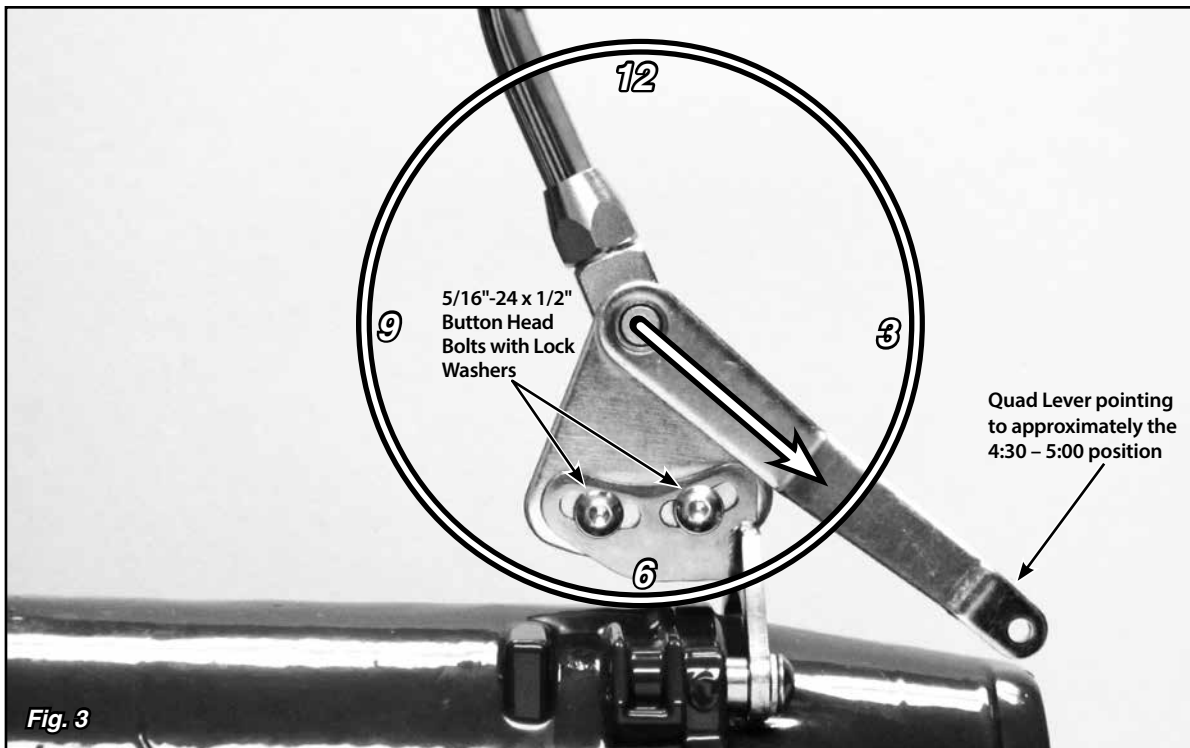

Fig. 3
Step 5: Insert the shifter assembly into the tailmount bracket so that the bolt holes line up with the curved, slotted holes in the welded banana brackets. Install four 5/16"-24 x 1/2" button head bolts and lock washers, using a 3/16" Allen wrench. **Fig. 3**
Step 7: Make sure the two 5/16"-24 x 1/2" button head bolts and lock washers in the driver side of the shifter assembly on the welded banana bracket are tight. Move the Shifter through all the gear positions. Make sure that the shifter lever and knob do not come in contact with the dash or the seat. The shifter assembly can be tilted forward or backward if needed by loosening the 5/16"-24 x 1/2" button head bolts and lock washers in the welded banana bracket on the driver side. Be sure to re-tighten the bolts in the welded banana bracket after adjusting the angle of the shifter assembly. **Fig. 3**
Step 8: Put the Shifter into the Park position and check the position of the quad lever. It will need to be pointing to about the 4:30 – 5:00 position. If it is not, loosen the set screw in the top of the quad lever with a 1/8" Allen wrench and slide the quad lever off of the shaft. Reposition it on the shaft at approximately the 4:30 – 5:00 position, and retighten the set screw. **Fig. 3**